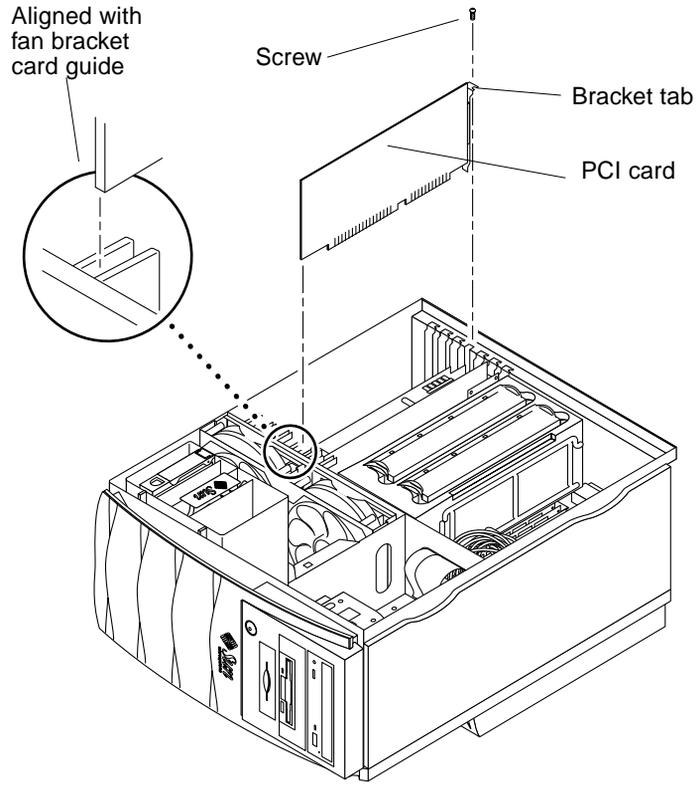

FIGURE 8-15 Removing and Replacing a PCI Card
4. **Using a No. 2 Phillips screwdriver, remove the screw securing the PCI card bracket tab to the workstation chassis (FIGURE 8-15).**
1. **Position the PCI card in the chassis** (FIGURE 8-15).